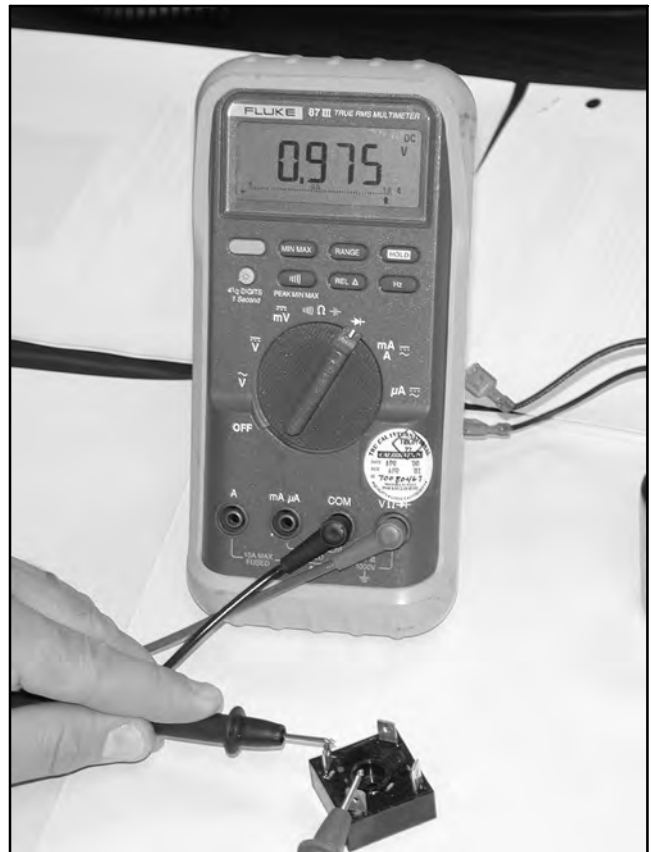

Figure 6-21 Checking Rectifier Diode Operation
7. Check the diode operation of the rectifier. See Figure 6-21 and Section 3.5 for rectifier test instructions. If the rectifier is bad, replace it. If the rectifier is good, proceed to step 9.